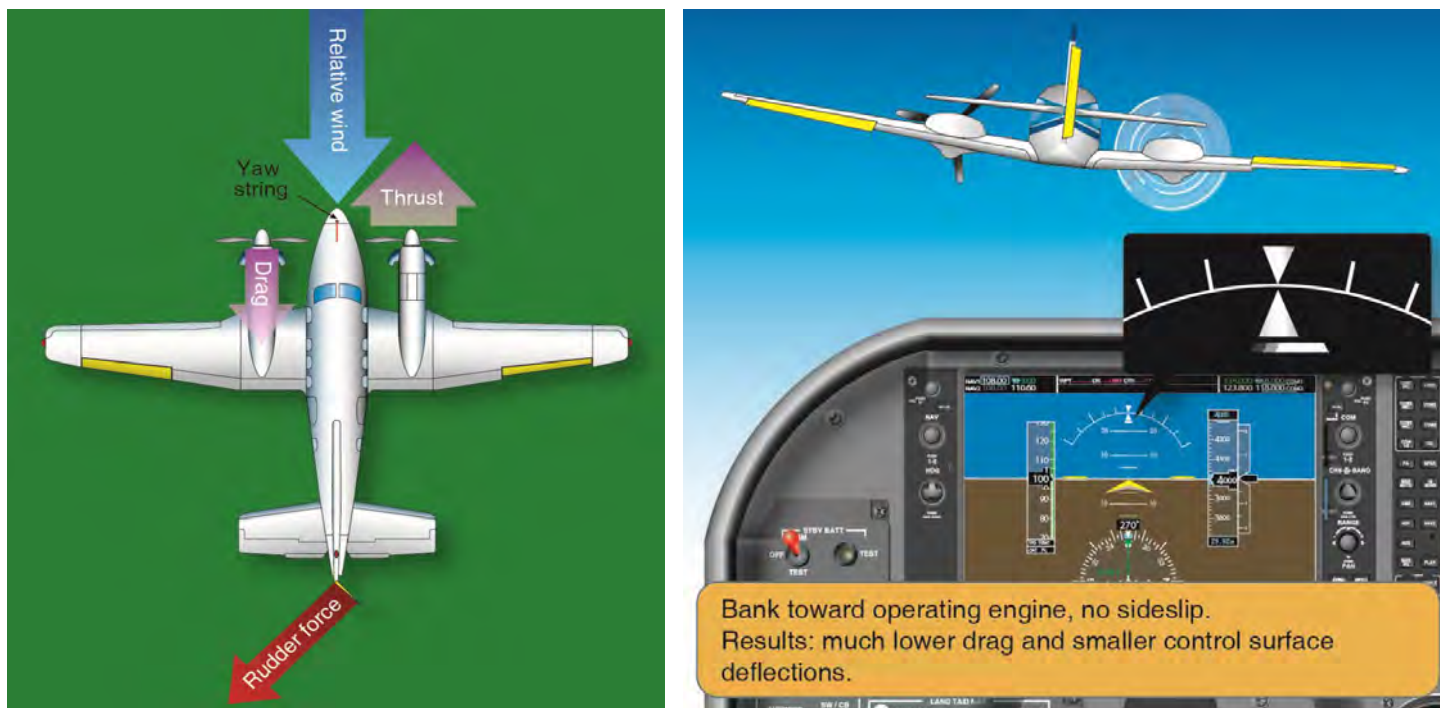

Figure 13-17. Zero sideslip engine-out flight.
3. Rudder and ailerons used together in the proper combination result in a bank of approximately  $2^\circ$  toward the operative engine. The ball is displaced approximately one-third to one-half toward the operative engine. The result is zero sideslip and maximum climb performance. [Figure 13-17] Any attitude other than zero sideslip increases drag, decreasing performance.  $V_{MC}$  under these circumstances is higher than published, as less than the  $5^\circ$  bank certification limit is employed.